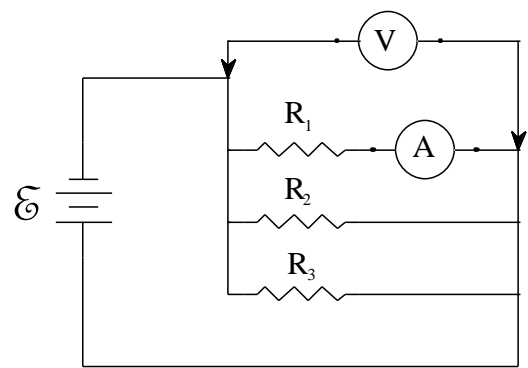

Figure 2
9. Repeat the procedure from *investigation 1* for this circuit. Take note of the correct connection for the ammeter. (see figure 2)